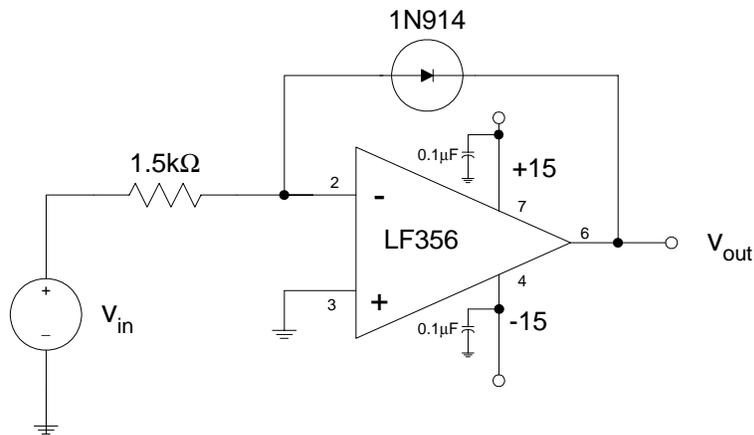

Figure 1: Circuit for Experiment 1
1. Build the logarithmic amplifier shown in figure 1. **Q 1.1 What is the ideal input/output relationship  $V_{OUT}$  versus  $V_{IN}$  for this amplifier when the diode is biased with forward current?**